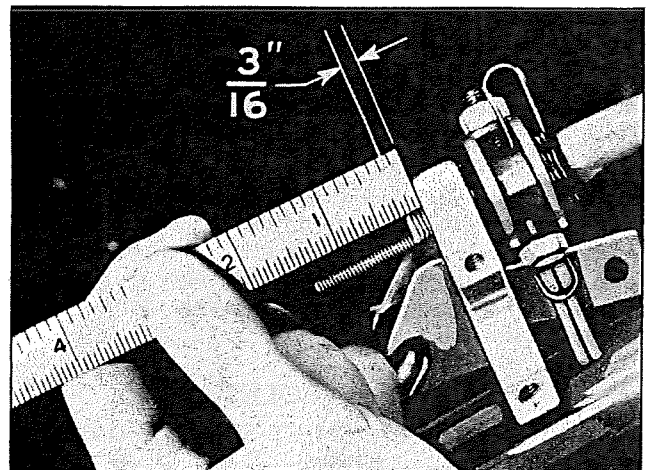

Fig. 7—Chevrolet 1939. Assembling Lower Bracket
ASSEMBLE: (1)—Install selector push rod in control shaft. (2)—Replace pivot pins and spring in shift lever, assembling the anti-rattle washer on one pin and a shim on the other. (3)—Compress the springs and slip the assembly into the gearshift lever housing, while at the same time, the open end of the shift lever must be slipped over the end of the selector push rod. (4)—Check for free operation of shift lever and selector push rod. (5)—The location of the upper support bracket with reference to the top of the mast jacket should be $\frac{3}{8}$ " on Master DeLuxe cars and $1\frac{3}{16}$ " on Master models. Before tightening the bracket screw, make sure the keyway in the bracket matches with the key which projects on the mast jacket. (6)—Thread the control shaft through the instrument panel bracket and through the toe-board grommet. (7)—Replace the counterbalancing spring and the shift control lever on the lower end of the control shaft, slipping it up on the "D" section as far as possible. (8)—Screw the lower support bracket on the control shaft until the shaft extends beyond the bracket $\frac{3}{16}$ " as shown in Fig. 7. (9)—Place the end of the control shaft in the upper support bracket, allowing the end of the counterbalancing spring to drop in behind the mast jacket. (10)—Install the lower support bracket on the mast jacket, being sure to match the keyway with the key on the mast jacket. (11)—Install the bracket cap and tighten the screws just snug.